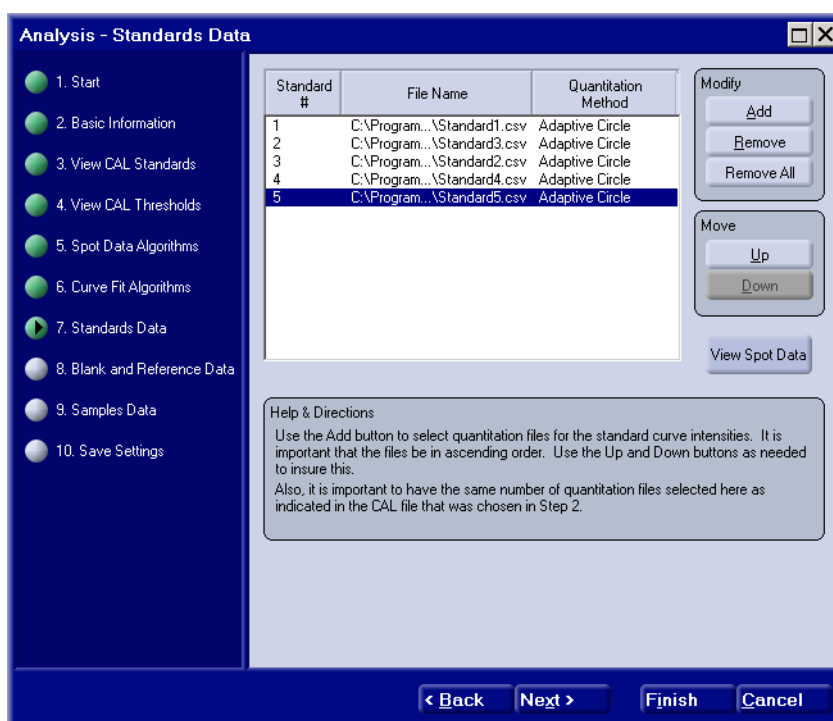

Figure 2-12 The Analysis - Standards Data Window
Specify the standards data files to be used for this experiment. These are the .CSV or .GPR quantitation files from samples with known concentrations. The standards must be in ascending order in this window as described below and shown in Figure 2-12. After files are added you can view the spot data for the files.
3. Click **Open**. The filename appears in the *Standards Data* window, as shown in Figure 2-12 on the previous page.